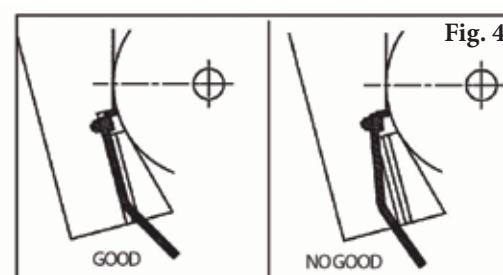

Fig. 4
10. **Check tip alignment with gauge provided.** Align the gauge against the head pulley and move down until the gauge contacts the top of the blade. The suspension arm should align with lines marked on gauge (Fig. 4). If the alignment is not correct, loosen both bearing block bolts and slide pole to gain correct alignment. Correct one side at a time. Tighten bolts and repeat Step 5.